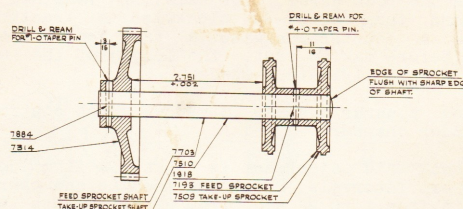

FIGURE 13 - SPROCKET ASSEMBLY
1. Sprockets must be accurately located on the sprocket shaft to insure correct alignment. Figure 13 shows the dimension that must be maintained. Parts for the feed and take-up sprockets are the same, except as indicated in figure 13.